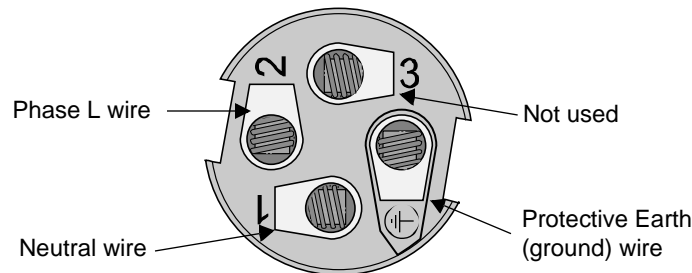

Figure 3-4 AC Connector Terminals
5. On the female terminal, connect the protective earth wire to the terminal marked with the ground (\oplus) symbol. See Figure 3-4.